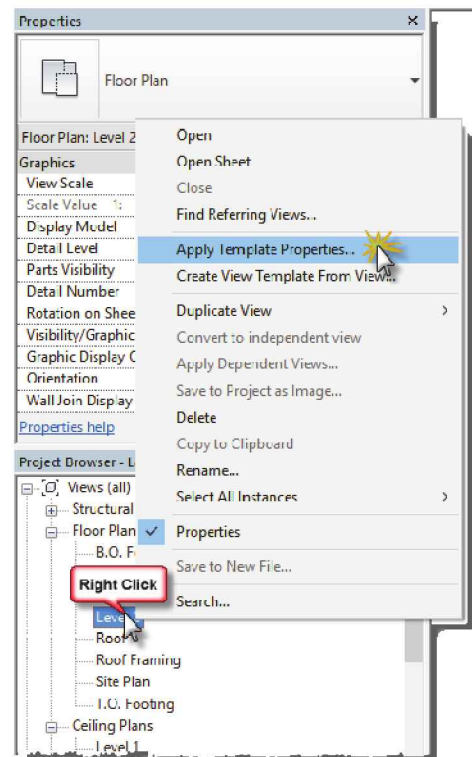

FIGURE 5-3.8
- Right-click on **Level 2** and select **Apply Template Properties...** from the pop-up menu (see Figure 5-3.8).